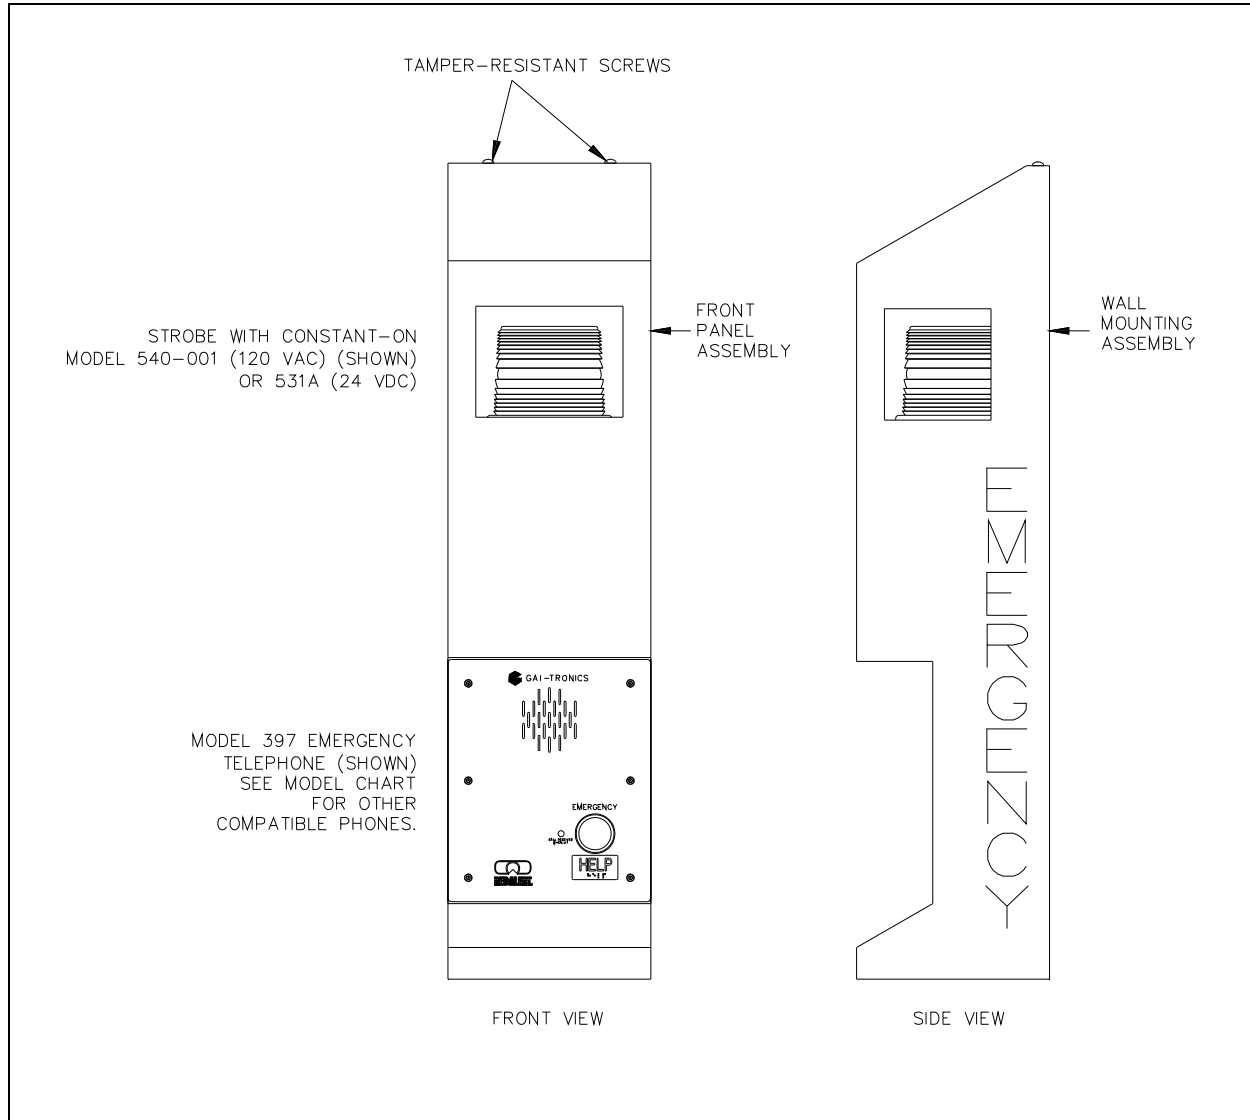
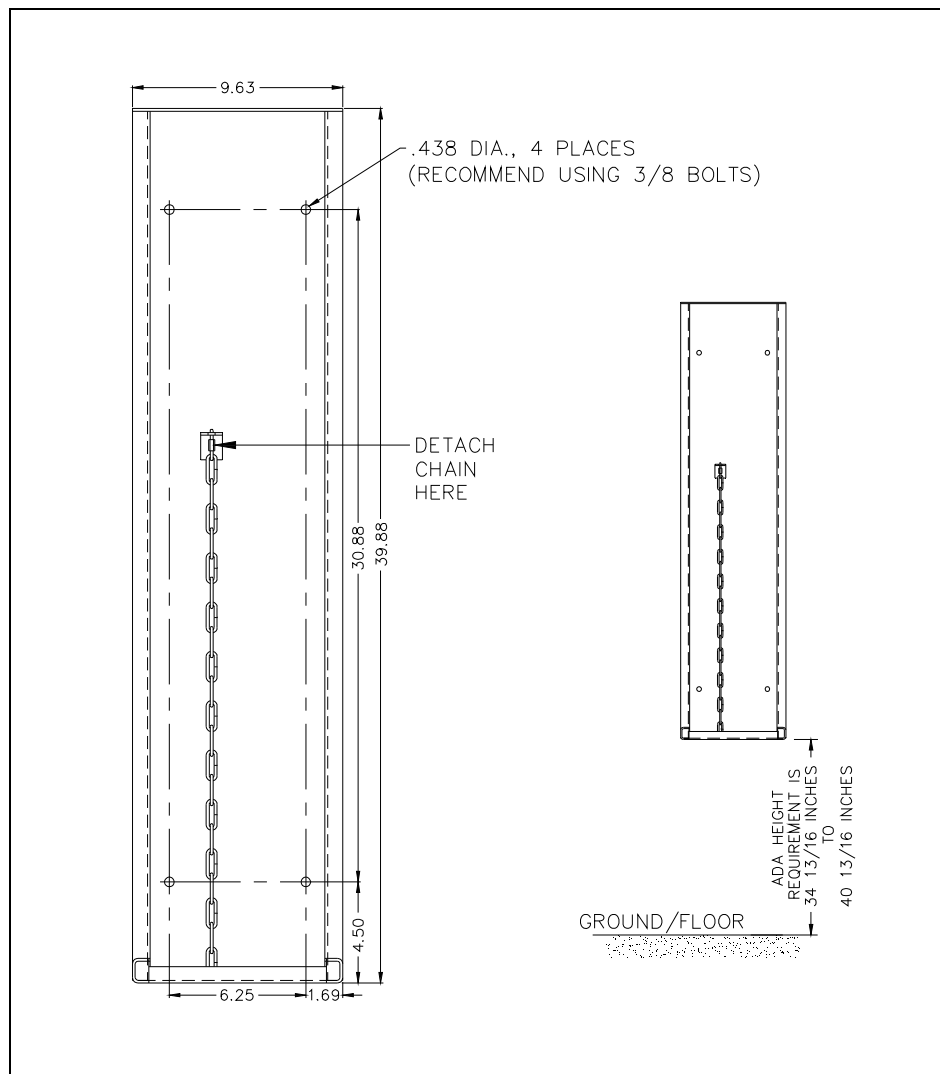

Figure 1. Model 234WM-202 Wall-Mount Stanchion Assembly
Figure 2. Wall Mounting Instructions
1. Remove and save the two tamper-resistant screws at the top of the stanchion. See Figure 1.
2. Remove the wall-mounting assembly from the front panel assembly. Refer to Figure 1. Detach the chain from the wall-mounting assembly. See Figure 2.
4. Fasten the wall-mounting assembly to a wall or flat surface that can support at least 50 pounds, using 3/8-inch bolts. Refer to Figure 2 for mounting hole dimensions and ADA height requirements.